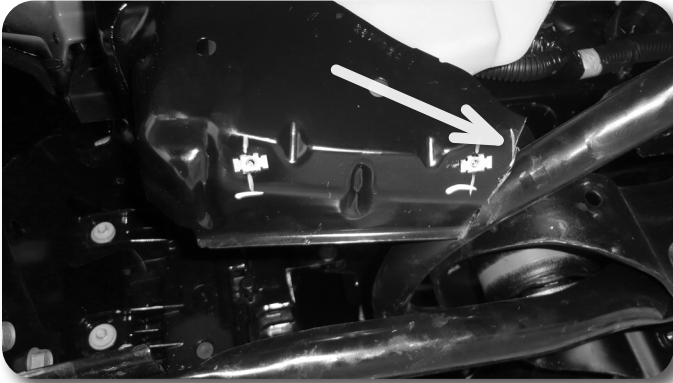

Figure 16
30. The inner fender supports will need to be trimmed to not interfere with the front crash tubes around the core support body mount. The inner fender support should currently be touching the front crash tube. Trim the inner fender support so that it is no longer touching the front crash tube. **Figure 16** .